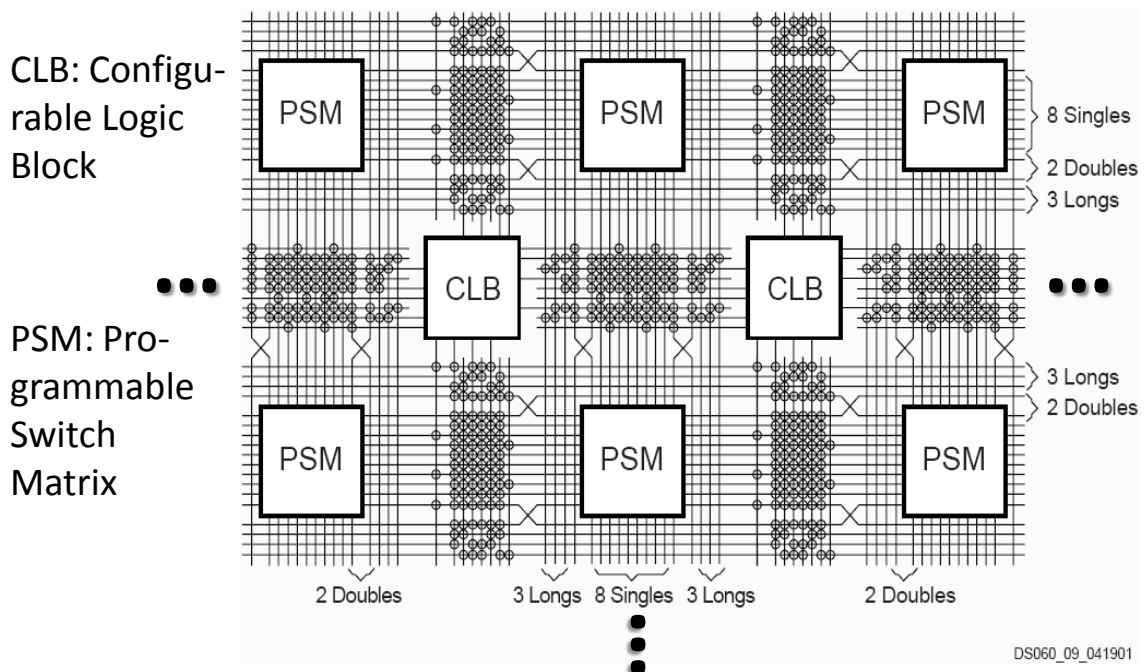

Figure 6-8
- You have to start the “dlx_uart.ht” file under windows, which will open the MS Windows HyperTerminal with the correct settings (you can find it in ~asip00/-ASIPMeisterProjects/TEMPLATE_PROJECT/Applications/Bootloader/). However, you may have to adapt the configured COM port, depending on which port you are connected to the FPGA (see Figure 6-8). After that, you have to click the ‘connect’ button to open the connection. Opening the connection always works without error message, but you have to make sure that the FPGA board is connected to the PC where you are running the HyperTerminal via UART.